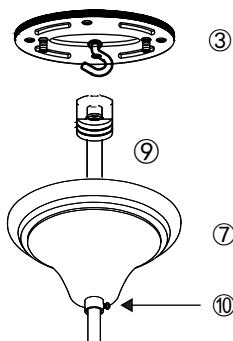

Fig 2
Step 1: Adjust the chain and fixture wires ⑤ to get a proper height.
Step 2: Hang the chain onto the hook of the round bracket (Fig 2).